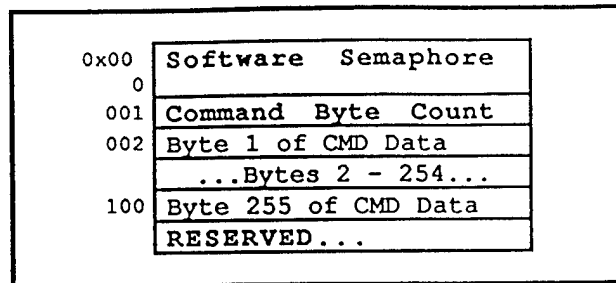

Figure 15: Type II Command Interface
3.4.3.1 Type II Command Interface The Command Interface for Type II DUTs will start at 0x000 of the 2k memory mapped interface. The EPP and the DUT must use the software semaphore (location 0x000) to synchronize the passing of data. IMMEDIATELY upon startup the DUT MUST give the semaphore. (write 0xC3 to location 0x0000) The EPP will write the new command data, including the byte count, then set the semaphore to indicate a new command is ready. (write 0x3C to location 0x0000) Upon detecting the semaphore set for a new command, the DUT reads the byte count, followed by reading the command data. After it has collected the current command, the DUT sets the semaphore to indicate it has read the command. (write 0xC3 to location 0x0000) As indicated in Fig.15, any command may contain up to 255 bytes of actual data.